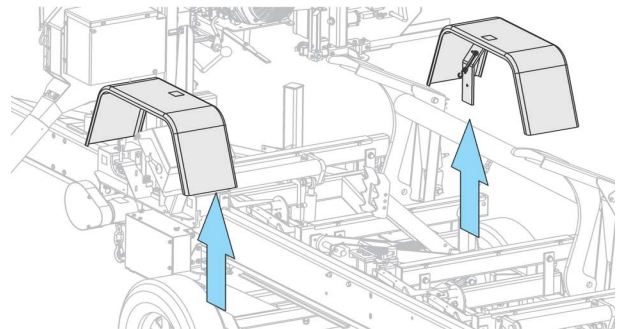

FIG. 3-2
4. Release the fender straps and lift up to remove the fenders. See FIG. 3-2.